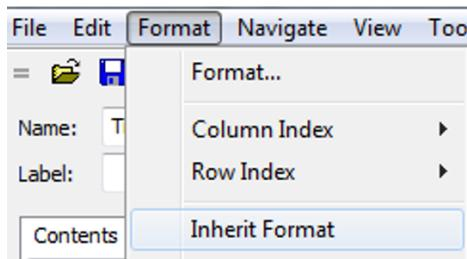

Fig. 4.11 TimeSequence—Inherit Format
1. Turn off inheritance: **FORMAT—INHERIT FORMAT** (remove the check mark, Fig. 4.11).